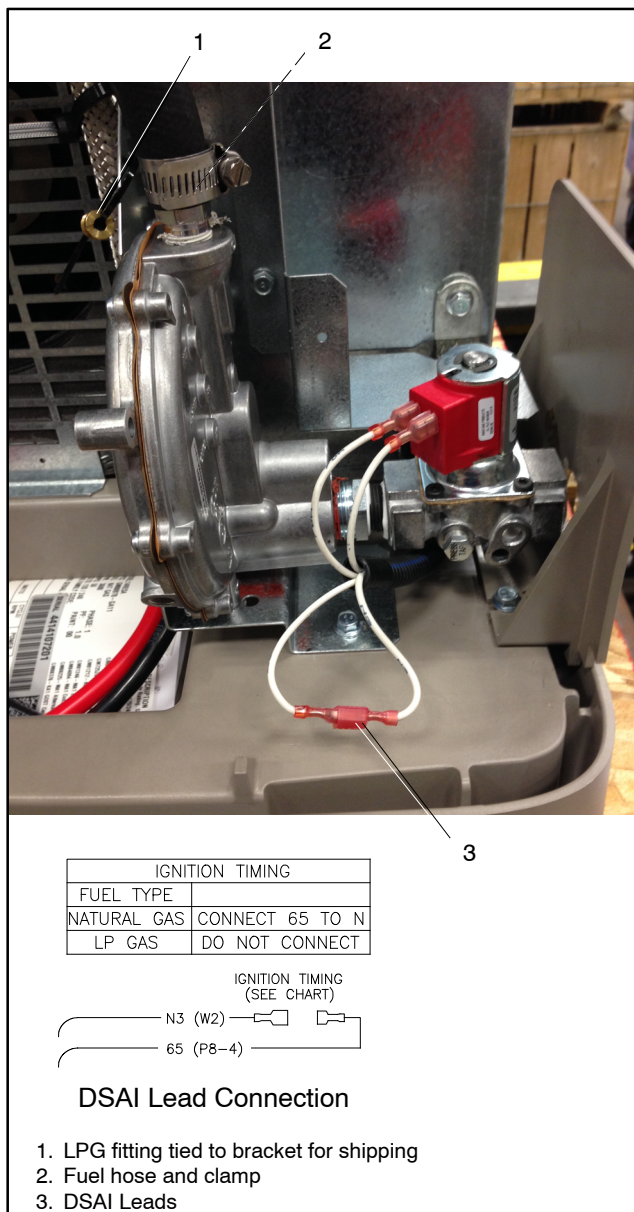

Figure 2 Fuel System, As Shipped
The unit is typically shipped set up for natural gas, with the LPG fitting tied near the fuel solenoid valve. To convert to LPG, remove the NG fitting and install the LPG fitting as described below. See Figure 2 for the fuel system component locations.
5. Remove the hose clamp and fuel hose from the hose fitting. See Figure 2.
9. Disconnect digital spark-advance ignition (DSAI) leads 65 and N3 for LPG. The DSAI leads are located near the fuel solenoid valve. See Figure 2.